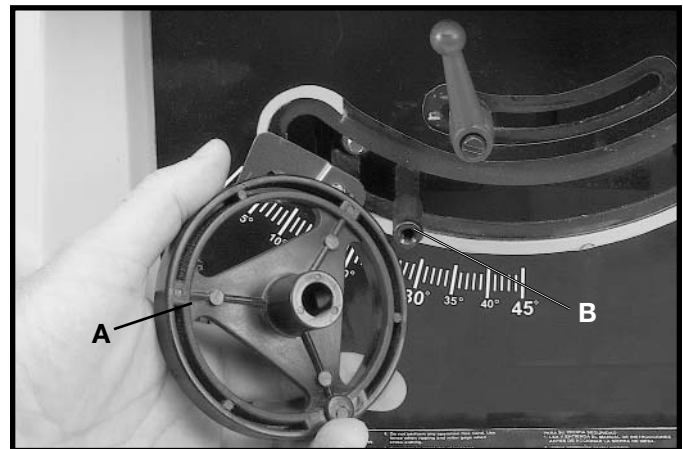

Fig. 7
3. Assemble handwheel (A) Fig. 7, to shaft (B) making sure the flat on inside of handwheel lines up with flat on shaft.